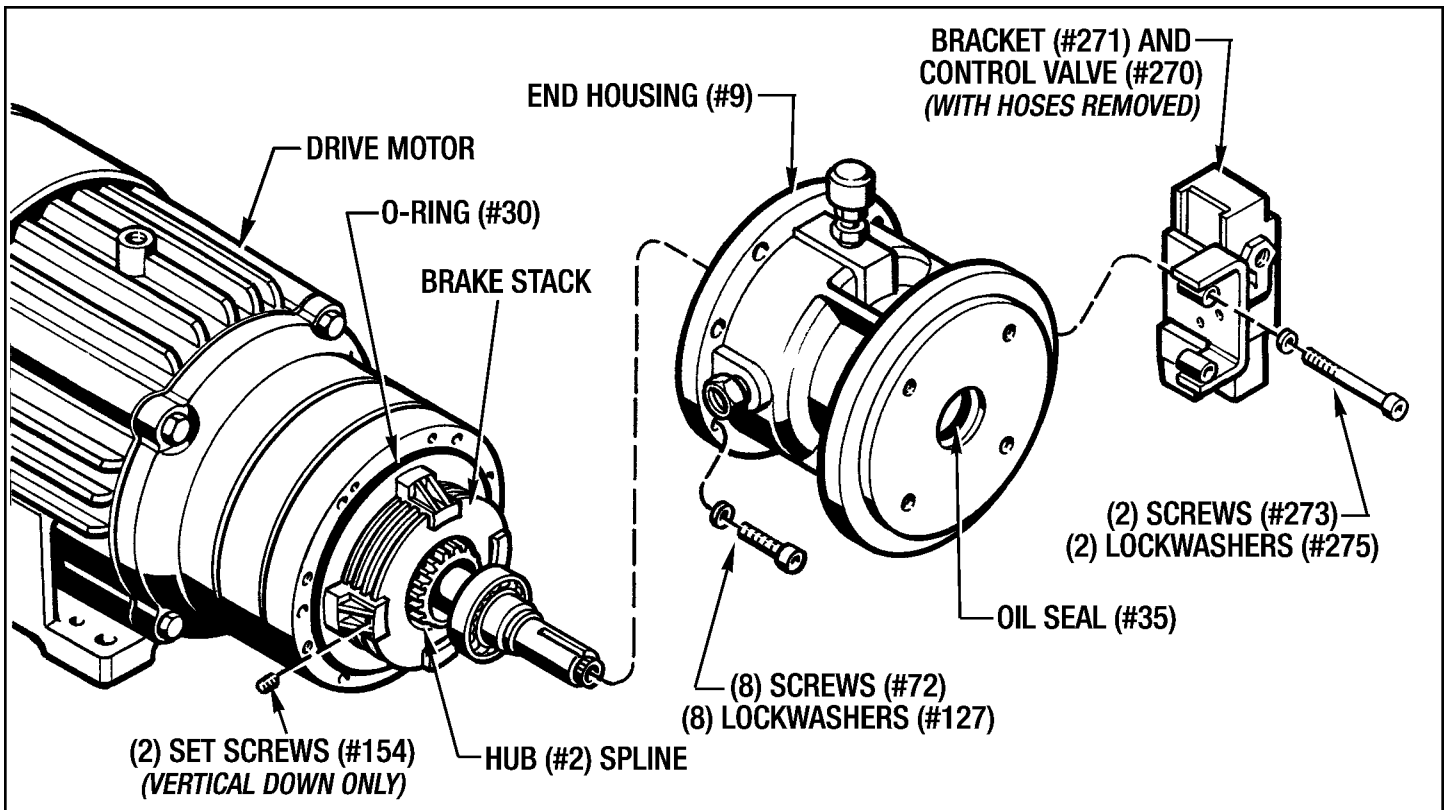

Figure 7.2 - Removing End Housing (#9) For Access to Brake Stack
(See Figure 7.2 on next page.)
1. Remove the (8) Screws (#72) and (8) Lockwashers (#127) from the End Housing (#9).
**NOTE** - If you have a brake mounted control valve, there will also be (2) Screws (#273) and (2) Lockwashers (#275). Remove them and disconnect the air hose under the brake. Take the Control Valve (#270) and Mounting Bracket (#271) off the End Housing (#9). (See Figure 7.2 on next page.)
4. Remove the **Brake Stack** from the Hub (#2) spline and the (4) lugs on the Piston Housing (#10).